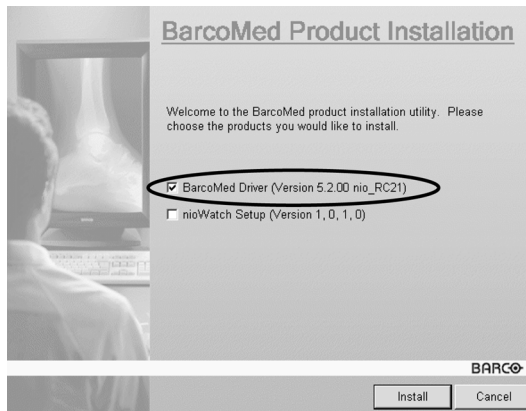

Figure 60
3. Make certain that the checkbox next to the driver is checked and that all other checkboxes are unchecked (figure 60 below). Click **"Install"** to continue.